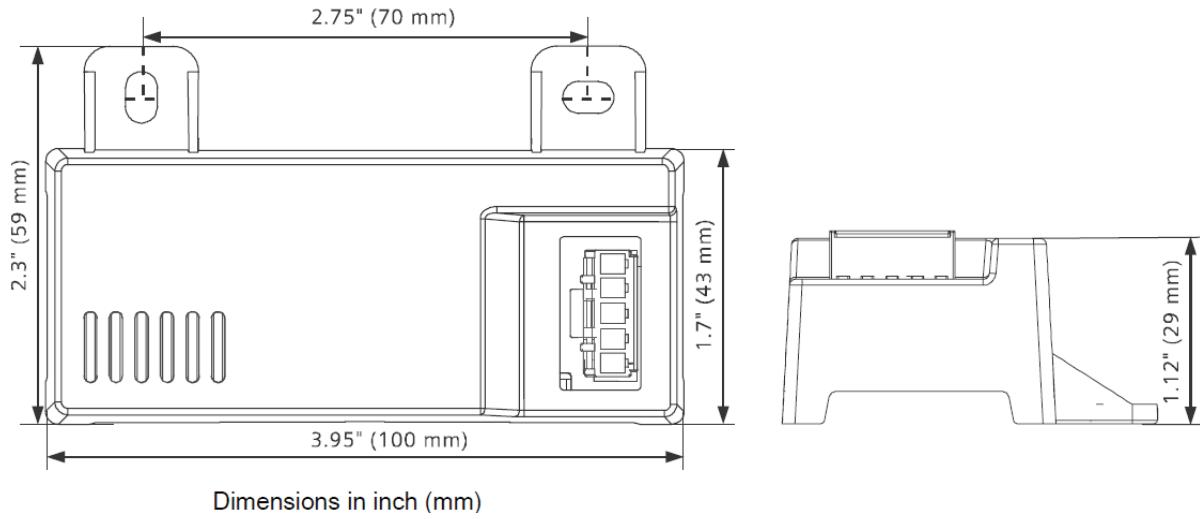
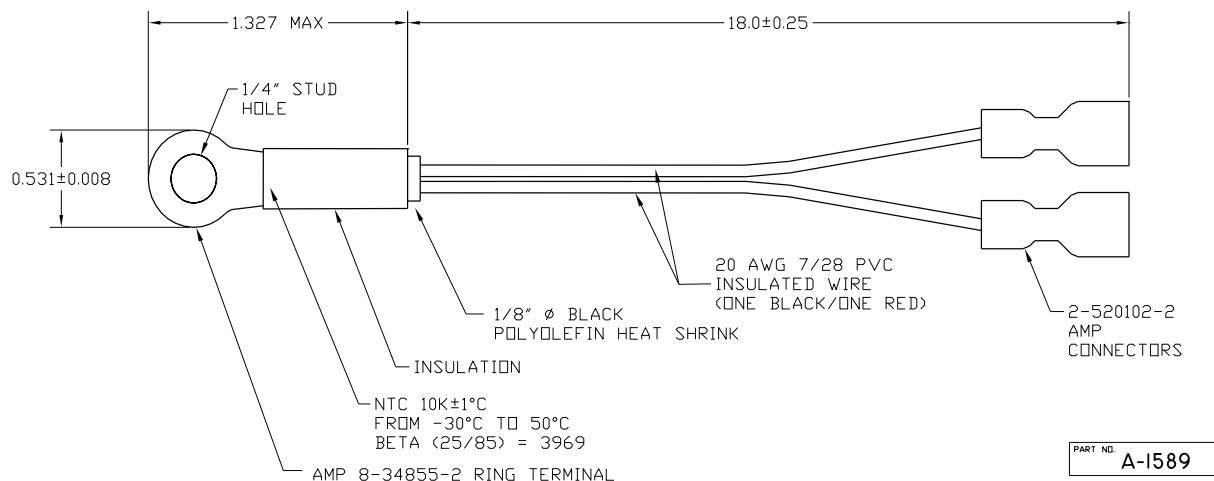
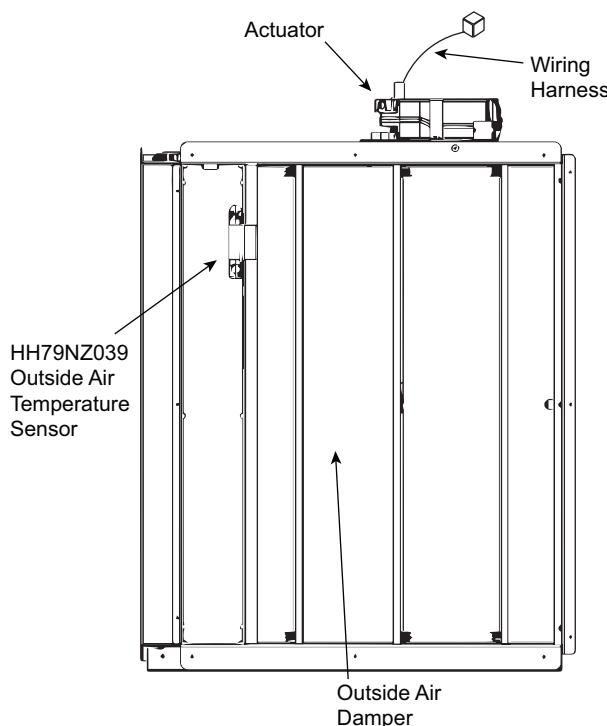

Fig. 58 — HH57LW001 Dimensional, Connection and Switching Information
Fig. 59 — HH79NZ039 Dry Bulb and Mixed Air Sensor Wiring
Fig. 60 — EconomizerONE Component Locations (CRECOMZR108A00 Shown)
When using the HH57LW001 enthalpy sensor (see Fig. 58) for outside air changeover, the existing HH79NZ039 dry bulb sensor (see Fig. 59) must be removed. The enthalpy sensor will be mounted in the same location as the dry bulb sensor (see Fig. 60). When the enthalpy sensor's OA (Outside Air) temperature, enthalpy, and dew point are below their respective setpoints, the outside air can be used for free cooling. When any of these are above the setpoint, free cooling will not be available. Enthalpy setpoints are configurable and create an enthalpy boundary according to the user's input. For additional details, see Fig. 61-62 and Table 24.
The optional enthalpy control sensor (P/N: HH57LW001) communicates with the POL224 economizer controller using the 5-wire harness, 48TC005213. The HH57LW001 sensor can be used as a single outside air enthalpy, a differential return enthalpy, or a differential return temperature sensor. Refer to the base unit control wiring diagrams found earlier in this book to wire the HH57LW001 enthalpy sensor for each option. Use Fig. 58 and Table 26 on page 44 to locate the wiring terminals for each enthalpy control sensor.
Economizers are shipped standard with an HH79NZ039 outside air dry bulb sensor (see Fig. 59). System default setting (high temp limit) is 63°F (17°C) and has a range of 48°F to 80°F (9°C to 27°C). Sensor is factory installed on economizer.
If installing the optional HH57LW001 enthalpy sensor, the HH79NZ039 dry bulb outside air sensor must first be removed. Wire sensor to harness 48TC005213 and the (5) wires from the harness to the EconomizerONE harness in the return air chamber. Harness 48TC005213 has a 5-pin plug that connects directly to the HH57LW001 enthalpy sensor. Refer to the base unit control wiring diagrams earlier in this book for wiring connections. Refer to Fig. 58 and Table 26.